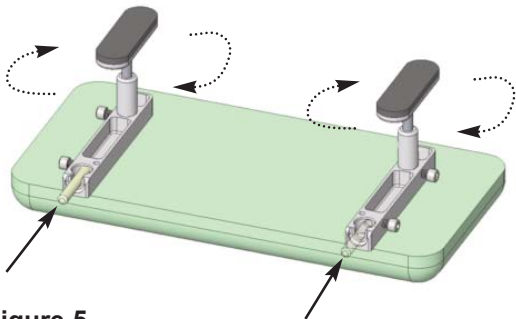

Figure 5
- 1) Insert the rubber adjusting feet into the aluminum blocks attached to the cushion (Refer to Figure 5).
- 2) Depending on which side of the multiCHAIR you need to transfer to, insert the stainless steel pin into the appropriate aluminum block and tighten using the 1/4" Allen wrench (Refer to Figure 5).